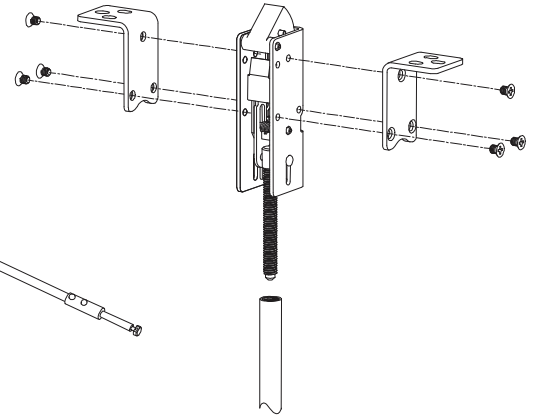

Figure 5-2
- Attach brackets to top latch, then thread rod assembly onto latch (Figure 5-2).